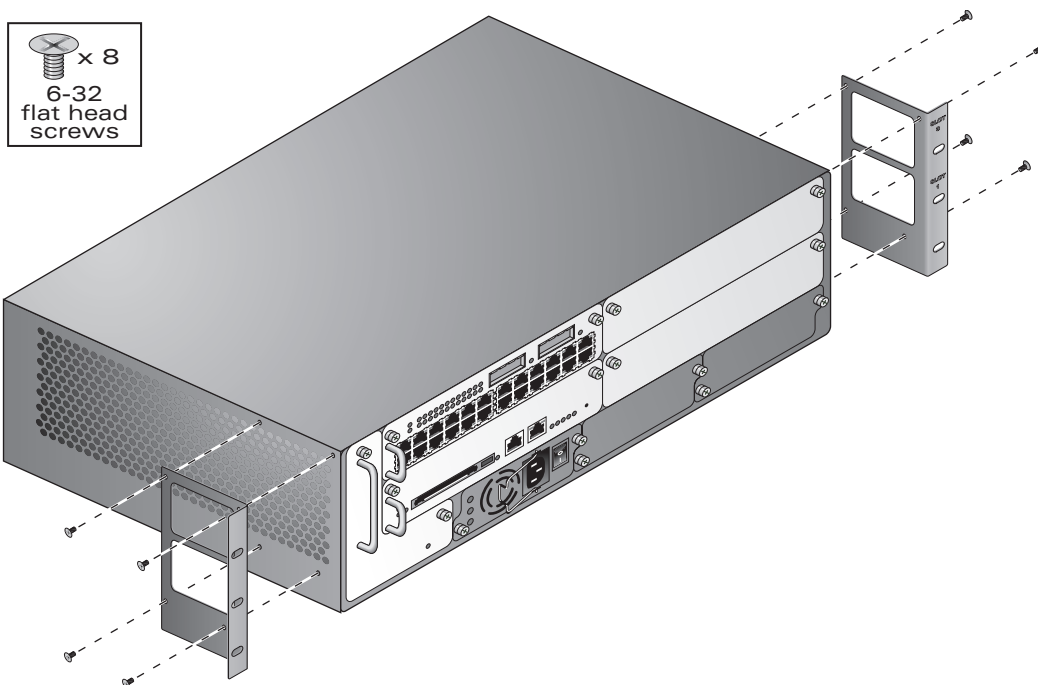

FIGURE 2-2 Attaching the Rack Mounting Brackets
- 2 Attach the rack mounting brackets to the switch chassis as shown in Figure 2-2.